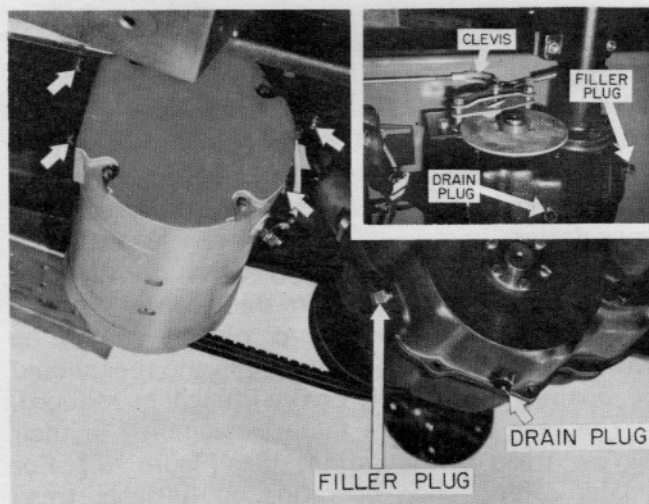

Figure 11. Brake, Transaxle, and Motor Mounting
After 100 operating hours, the transaxle filler plug should be removed and the fluid level checked (See Figure 11). The oil level should be to the bottom edge of the filler hole. If necessary, replenish with approved axle fluid only, i.e., SAE EP90.
1. Loosen four carriage bolts holding motor plate. Insert a 1/4" wedge under the forward part of the motor plate, and retighten bolts finger tight (See Figure 11).
A fully depressed brake pedal or an engaged parking brake should prevent the tractor from rolling on average hillsides. If the brake does not perform satisfactorily, the following adjustment may be made: (See Figure 11).